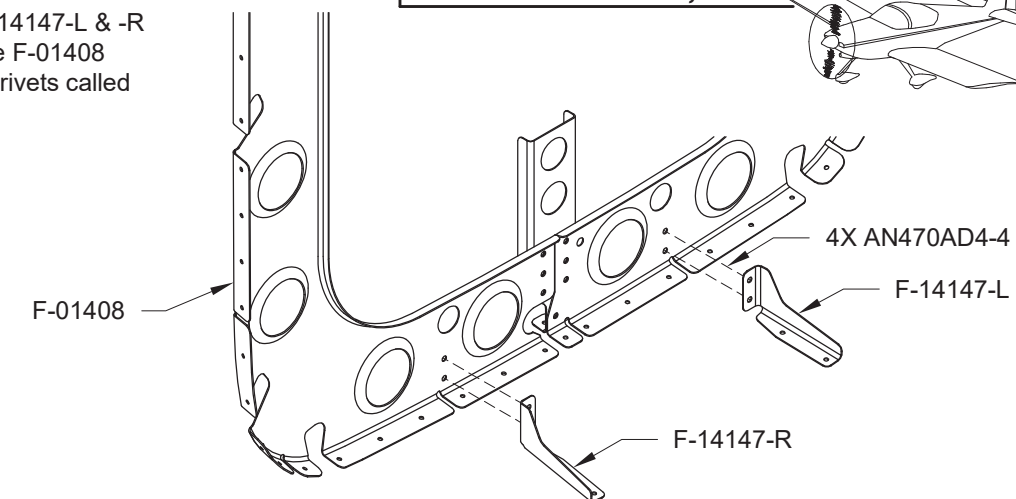

FIGURE 3: ATTACHING STIFFENER CLIPS
Step 6: Rivet the F-14147-L & -R Stiffener Clips to the F-01408 Bulkhead using the rivets called out in Figure 3.